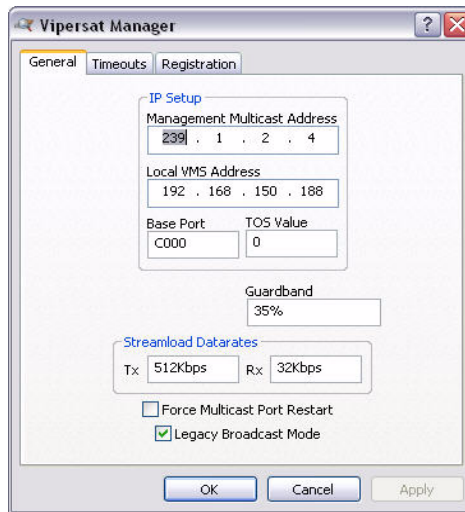

Figure 3-7 Vipersat Manager, General tab
2. Select the **General** tab shown in figure 3-7, and make sure that the **Management Multicast Address** of the VMS matches the Receive Multicast Address for each modem in the network that is controlled by this VMS. This address is used to propagate managing multi-command messages from the VMS to all receiving IP network modems.